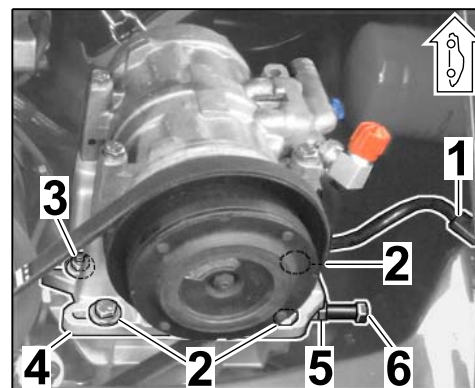

Figure 5
1.2.2 Disconnect electric plug connection for the air-conditioning compressor (⇒ *Figure 5*).
1.2.3 Loosen three hexagon-head bolts (M8 x 35) and one M8 hexagon nut on the stud on the air-conditioning compressor plate (⇒ *Figure 5*).
1.2.4 Then **LOOSEN** lock nut (1 x) on the tension screw on the air-conditioning compressor plate and unscrew tension screw (⇒ *Figure 5*).